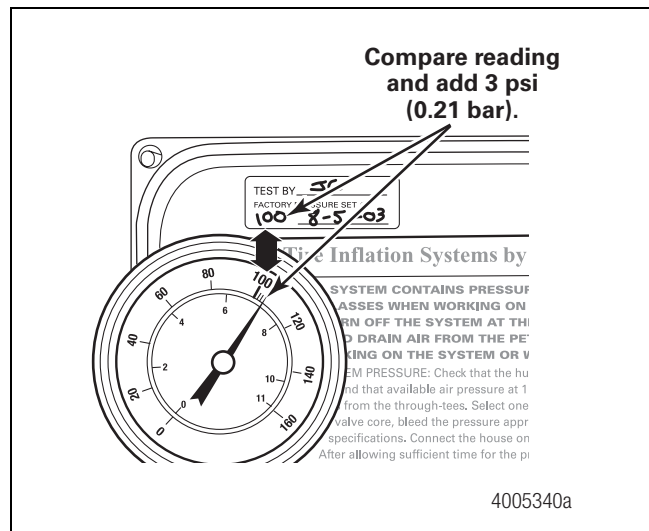

Figure 3.15
7. Compare the reading of the air pressure gauge to the pressure value marked on the door of the control box. The air pressure gauge should read three psi (0.21 bar) higher than the pressure value mark on the door of the control box. Figure 3.15.